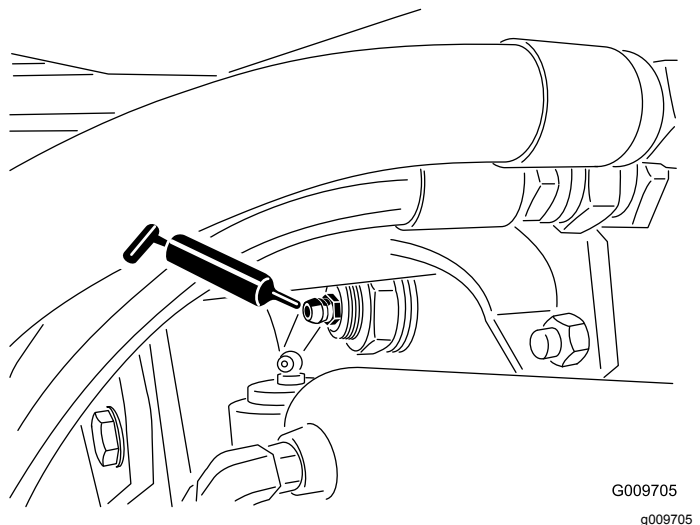

Figure 27
- Rear axle pivot bushings (2) (Figure 27)